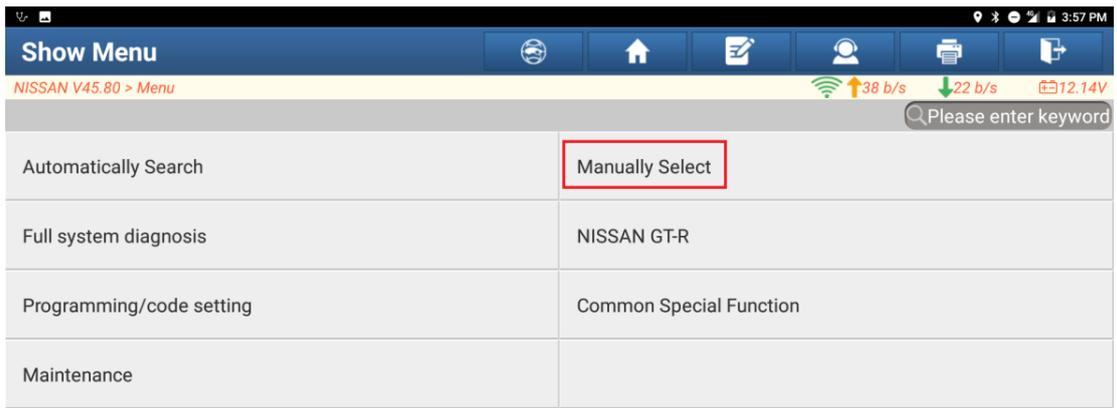

Figure 1
1. Turn on the vehicle ignition switch. On an X431-PAD 5, choose [Local Diagnosis], and then choose [Nissan] to enter the menu (as shown in Figure 1).